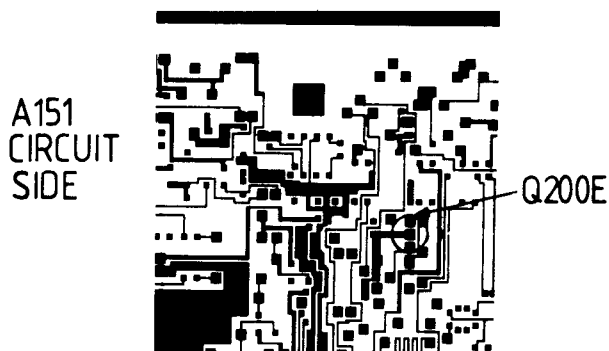

Figure 5-21
2. Connect scope via 1:1 probe to A151Q200 emitter (see figure 5-21).